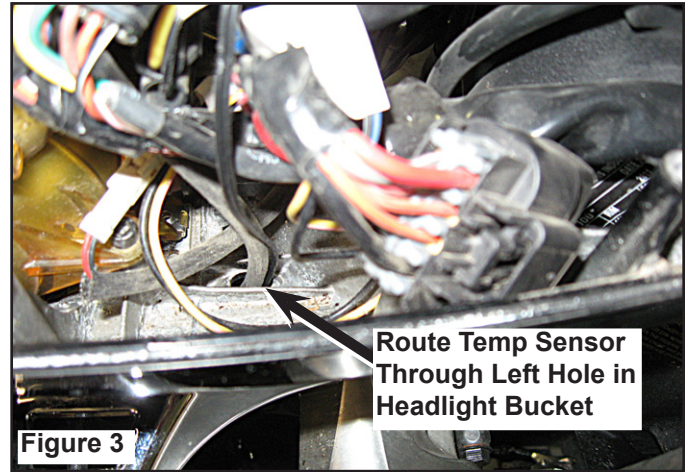

Figure 3
7. Starting inside the headlight bucket, route the sensor next to the left hand turn signal wiring through the small hole in the bottom left of the headlight bucket. Figure 3.